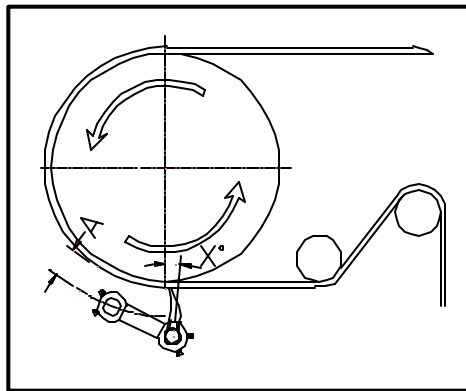
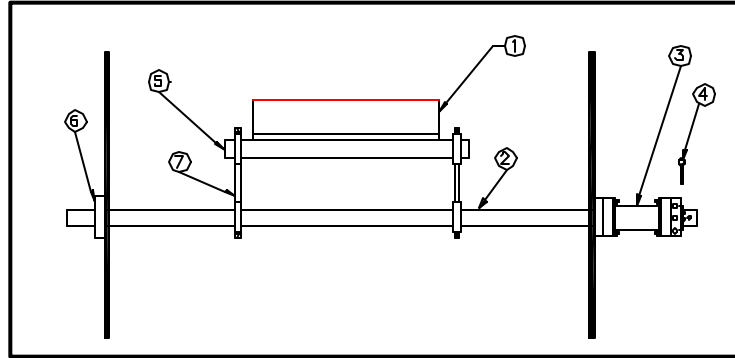

Fig. 1
Fig. 2
The center line of the tensioner pipe (item 2 – fig. 2) should be mounted below the belt about 3 ½" (88.9mm), see dim. "A" – fig. 1. You may have to fabricate the structure in order to do this. You will need a surface of at least 4 ½" (114.3mm) wide to accommodate the tensioner (item 3 – fig. 2) and weld hub (item 6 – fig. 2). You will need to cut or burn a 2 ½" (63.5mm) hole for the tensioner pipe to pass through with its center line at 3 ½" (88.9mm) below the belt as referred to in fig. 1 (dim. "A"). Make sure that hanger brackets are perpendicular to the belt.
Now, remove the tensioner and weld hub from the cleaner and slide the tensioner pipe from the pivot arms (item 7 – fig. 2). You may leave the arms attached to the cleaner mainframe.
Now you can slide the tensioner pipe through the brackets. As you run the tensioner pipe through the first bracket, you will need to slide back through the pivot arms at the same time (see fig. 2). Do not tighten the set screw in the pivot arms yet, let them hang freely on the tensioner pipe. Now, slide the tensioner over the end of the pipe that has the slots in it and insert the tensioner pin (item 4 – fig. 2). After placing the weld hub (item 6 – fig. 2) on the opposite end, hold the pipe so the center line is at 3 ½" (33.9mm). Tack weld the tensioner and weld hub to the mounting brackets.